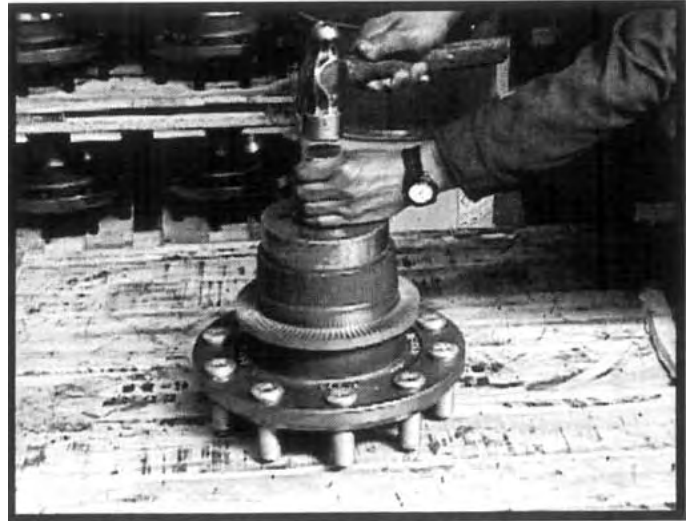

Figure 22
1. Press both wheel bearing cups into the hub. Thoroughly pack both bearing cones with grease, and coat the inside surfaces of the hub and bearing cups. Install the inner wheel bearing cone and the hub seal in the hub. See Figure 22. Lightly coat the outer surface of the spindle with grease to reduce the chance of the inner wheel bearing cocking upon installation of the hub.